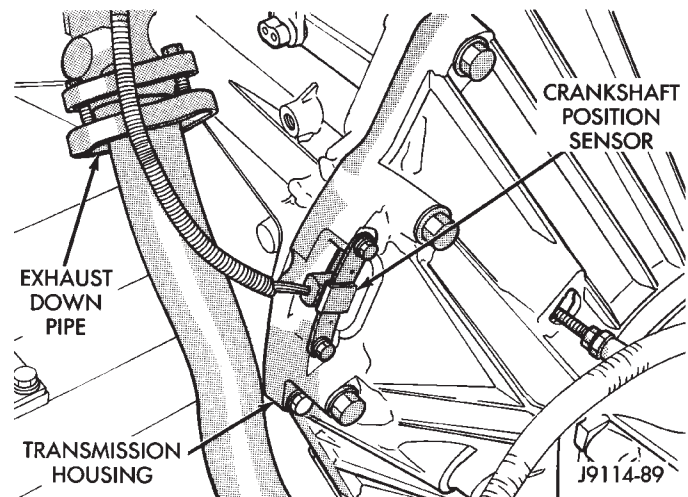

Fig. 8 Crankshaft Position Sensor (2.5L)
(12) Remove crankshaft position sensor (Figs. 8, 9).